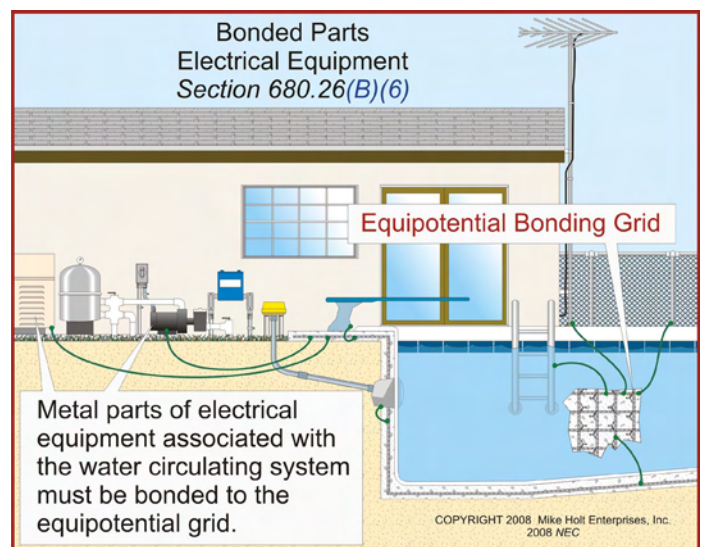

Figure 680-33
(6) **Electrical Equipment.** Metal parts of electrical equipment associated with the pool, outdoor spa, or outdoor hot tub water circulating system, such as water heaters and pump motors and metal parts of pool covers must be bonded to the equipotential grid. **Figure 680-33**